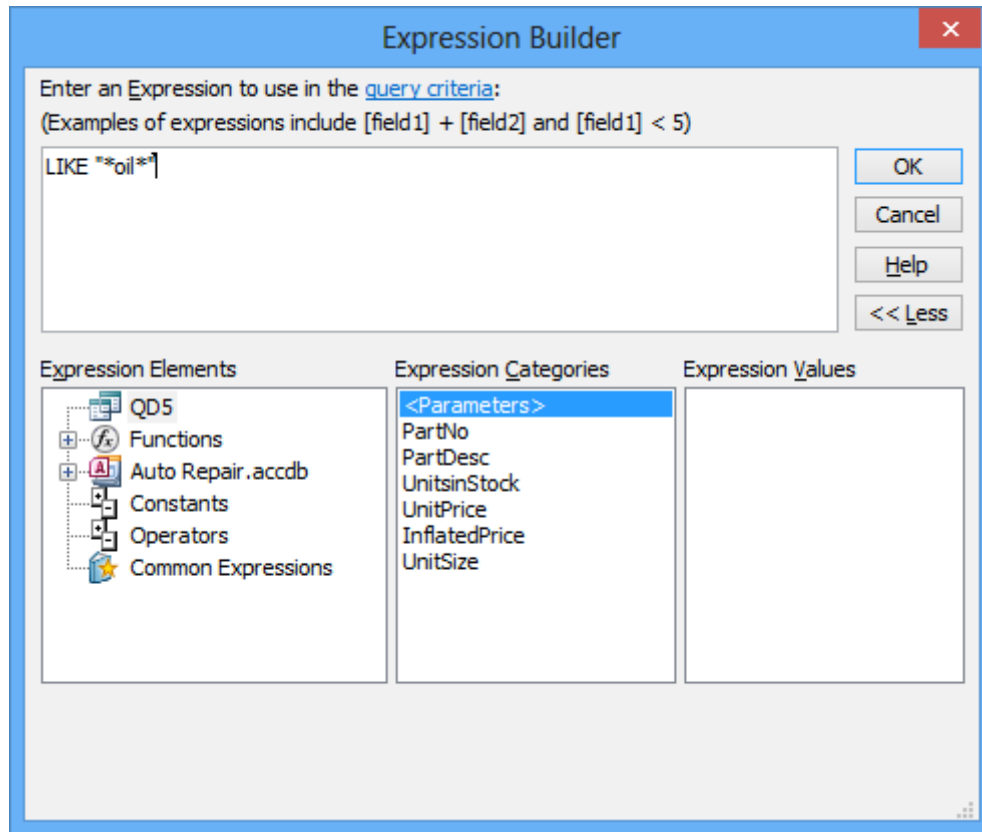

Figure 24: Expression Builder Window for “QD5”
4. Type into the Text Area: Type the expression as shown in the text area of Figure 24: